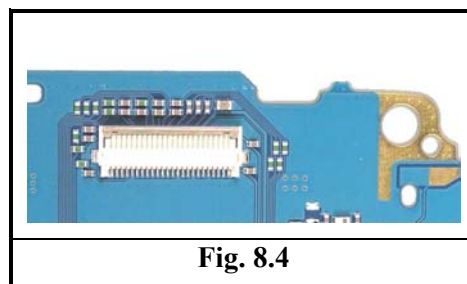

Fig. 8.4
- Check if the main LCD flex-film is fitting correct into the FFC/FPC connector (*Fig. 8.4*) and check if the FFC/FPC connector is closed. Replace the FFC/FPC connector if necessary.
- Check if the FFC/FPC-connector main LCD (*Fig. 8.4*) is mechanical damaged, dirty or oxidized. Replace the FFC/FPC connector main LCD if necessary.